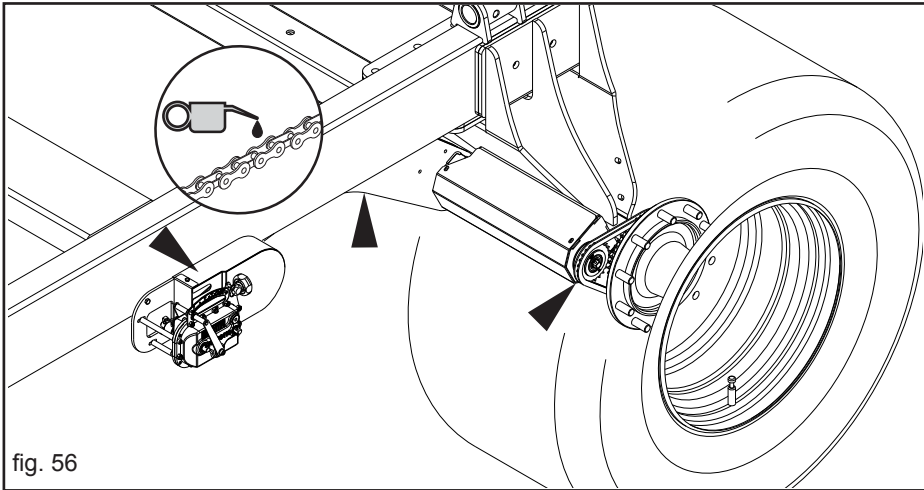
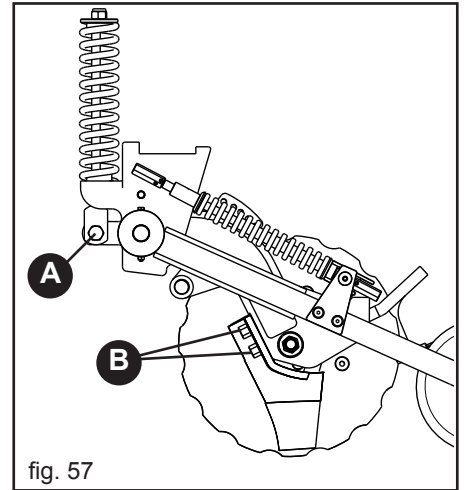
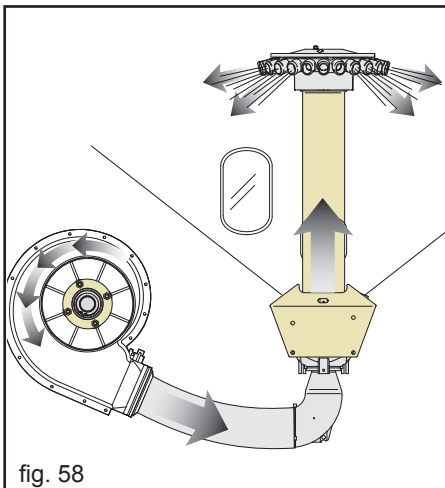
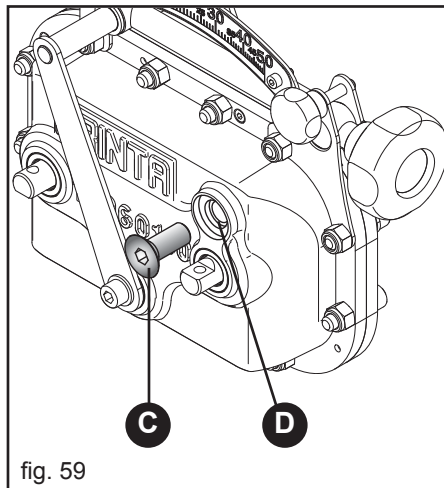

fig. 56
fig. 57
fig. 58
fig. 59
| WHEN THE MACHINE IS NEW | <ul style="list-style-type: none"> - Lubricate the transmission chains (Fig. 56). - Grease all parts indicated by transfer nr. 14 ('GRASE') at page 42 of this leaflet. - After the first hours of work check that all the bolts are still tight. - Check the tightness of the bolts on the listers (A-B, Fig. 57). |
| AT THE BEGINNING OF THE SEEDING SEASON | <ul style="list-style-type: none"> - Lubricate the transmission chains (Fig. 56). - Before every new season, change the gearbox oil with "AGIP EXIDIA HG 68" (0.7 Kg.) as follows: <ol style="list-style-type: none"> 1) remove the oil cap (C, Fig. 59); 2) drain all the oil from the gearbox from point D and collect waste oil in a suitable container; 3) fill the gearbox with fresh oil (0.7 Kg.) and close the cap. - Make sure that the transmission rotates freely without any interferences. - Operate the empty seeding machine, the air-flow frees the pipes from condensation and removes eventual impurities (Fig. 58). - During periods of use, check the oil level in the overgear and tank daily; top-up if necessary. |
| EVERY 20/30 WORKING HOURS | <ul style="list-style-type: none"> - Check the tightness of the bolts on the lister (A-B, Fig. 57). - Clean and lubricate the transmission chains (Fig. 56), the gears and the chain tensioner. - Periodically check the wear on the bushings (1) shown in Figure 60. |
| SETTING ASIDE | <p>At the end of the season, or if a long period of rest is for seen it is advisable:</p> <ol style="list-style-type: none"> 1) Carefully empty all the seed from the hopper and distribution assÖy (see cap 4.13). 2) Clean the equipment, the tank and the metering unit especially, with a large amount of water. Then, dry it using jets of air. 3) Carefully check worn or damaged parts and replace if necessary. 4) Make sure that the metering unit can rotate without excessive efforts. Check the bearings, if necessary 5) Tighten all screws and bolts. 6) Grease the dnve chains (Fig. 56), oil all the drive chains, spread lubricant on all the parts not painted (Fig. 62). 7) Protect the equipment with a (nylon) cover. 8) Then put it in a dry place, do not move it and where it is out of reach of un authorized people. |